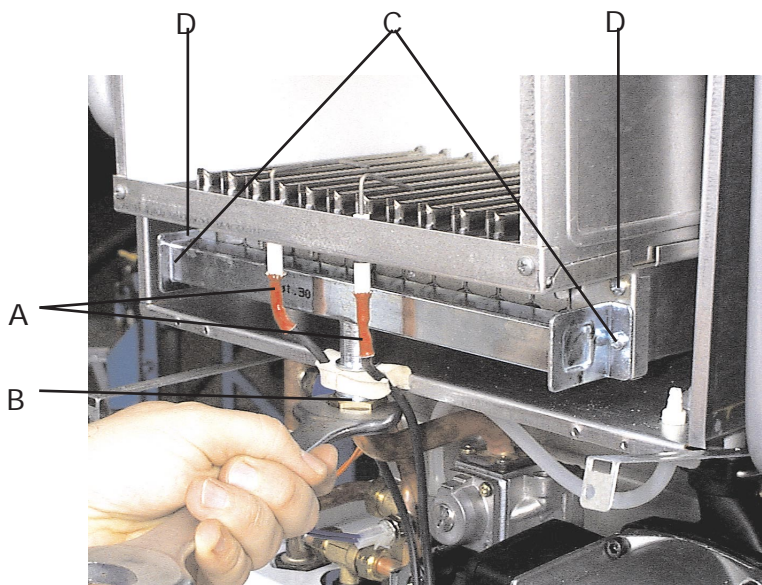

Fig. 35
7.08 Removal of burner (fig. 35)
7.09 Injectors (fig. 35)